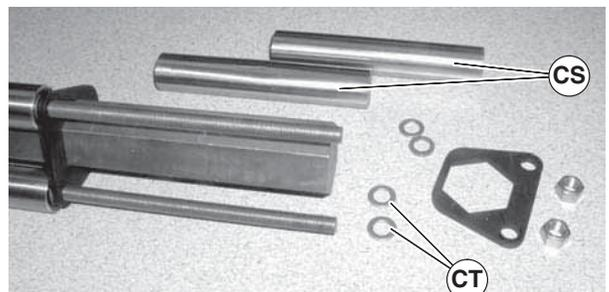

Figure 71
7. Remove pulleys (Figure 71, item CS) and additional washers (CT).